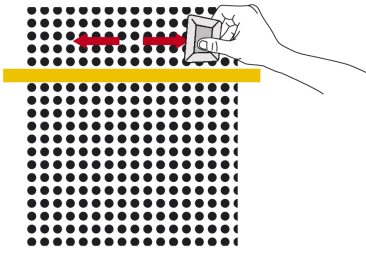

Figure 04
- › Apply the film with the squeegee previously covered with felt, carrying out movements from the centre towards the borders. (FIG. 04)